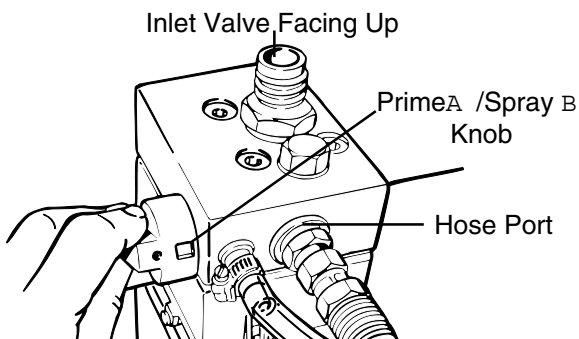

Figure 11 - Prime/Spray Knob
2. Make sure Prime/Spray Knob is in Prime **A** position and Pressure Knob is turned to the lowest pressure. (Counter clockwise) See Figure 11. Turn unit on.